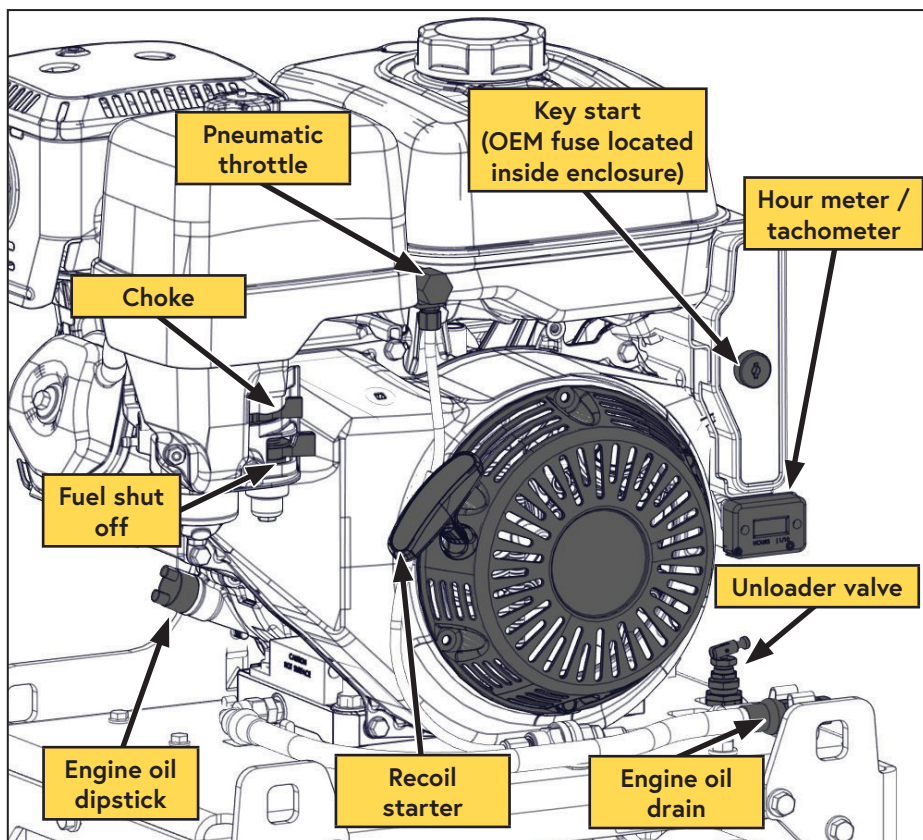

Figure 5 — System overview
- The unloader valve should be manually activated to aid start up; this will reduce the load on the compressor, resulting in less load on the engine during warm up (Figure 5 on page 23).